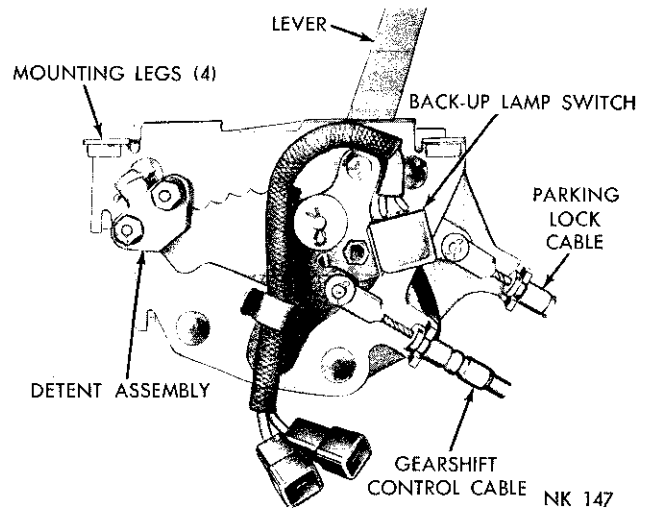
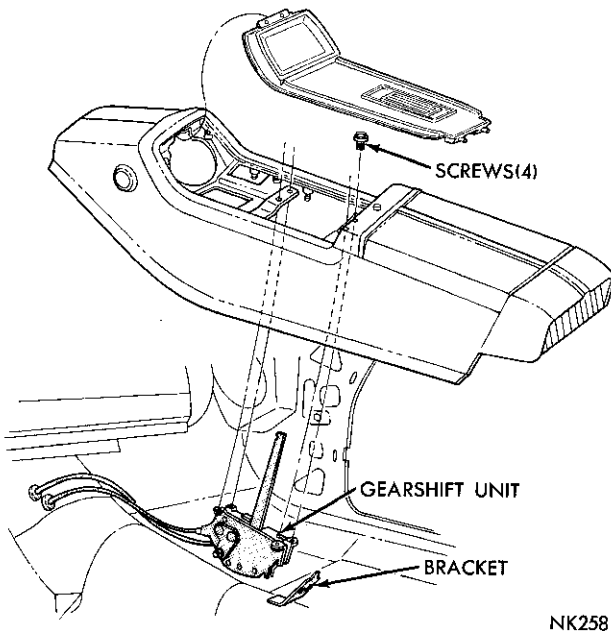

Fig. 17—Console Gearshift Unit
Fig. 16—Removing or Installing Console
(2) Remove the set screw from the gearshift lever knob and remove the knob.
(3) Remove the screws from the front end of the console upper finish plate (Fig. 16). Raise the front end of the plate and work it forward to disengage it from the rear of the console. Lift the plate upward far enough to remove the dial lamp and socket, then lift off the plate. Remove the four gearshift unit to console retaining bolts.
(4) Raise the console lid, remove two screws from bottom of the tray, securing console to the floor rear mounting bracket. Carefully raise the lower edge of the console side trim and loosen the console-to-floor bracket mounting bolts (two bolts on each side of console). Loosen the bolts several turns but do not remove. Disconnect the courtesy lamp wires and any other electrical connections, then lift off the console assembly.
(5) Disconnect the two cable and housings from the unit. Disconnect the back-up lamp switch wires (Fig. 17).
(6) Attach a piece of soft wire about four feet long
(2) Place the gearshift unit on the temporary floor pan bracket to hold it in place while installing the console (Fig. 16). Lower the console down over the shift lever and connect the courtesy lamp wires and other electrical connections. Position the console on the floor mounting brackets, make sure the retaining bolt flat washers are outside of the console flange, then tighten the four bolts securely. Install and tighten the two retaining screws in the bottom of the console tray.
(3) Lift the gearshift control unit off the temporary bracket. Align the unit in the console, install and tighten the four retaining bolts. Position the finish plate over the shift lever, slide the two pins on rear end of the plate under the moulding, and lower the finish plate far enough to install the dial lamp and socket. Lower the front of the finish plate into position and install the retaining screws.
(4) Install the gearshift lever knob and secure with the set screw.
(5) Inspect the cables for proper routing. Make sure there are no sharp kinks or interference with other parts.
(6) Connect the battery ground cable. Adjust the gearshift and parking lock control cables. Refer to Page 50.